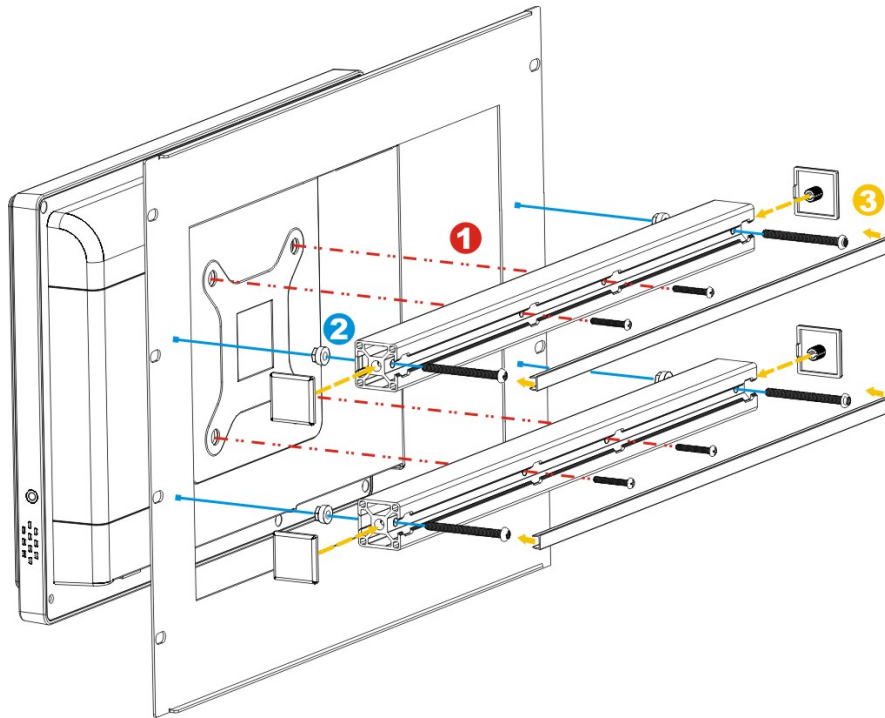

Figure 3-18: Secure the Rack/Cabinet Bracket
- Step 3:** Secure the two rack mounting brackets to the rear of the panel PC by inserting the four retention screws into the VESA mounting holes (Figure 3-18 ①).
- Step 4:** Insert the rack mounting clamps into the holes of the rack mounting brackets (Figure 3-18 ②). There are a total of 4 rack mounting clamps for AFL2-10A-N28.
Step 6: Install the covers into the rack mounting bracket. Each mounting bracket includes two side covers and one top cover (**Figure 3-18 ③**).